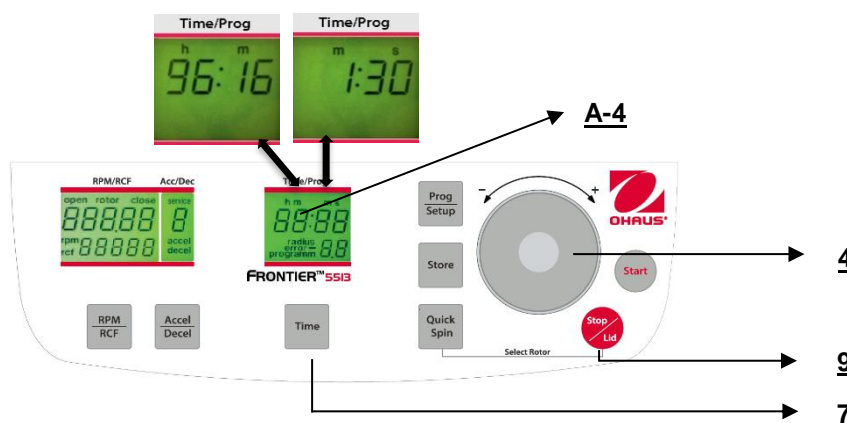

Figure. 17
3. The continuous run "cont", which can be interrupted by the key "Stop/Lid"(9) (refer to figure 17).
The display always shows the remaining running time. (See figure 17)